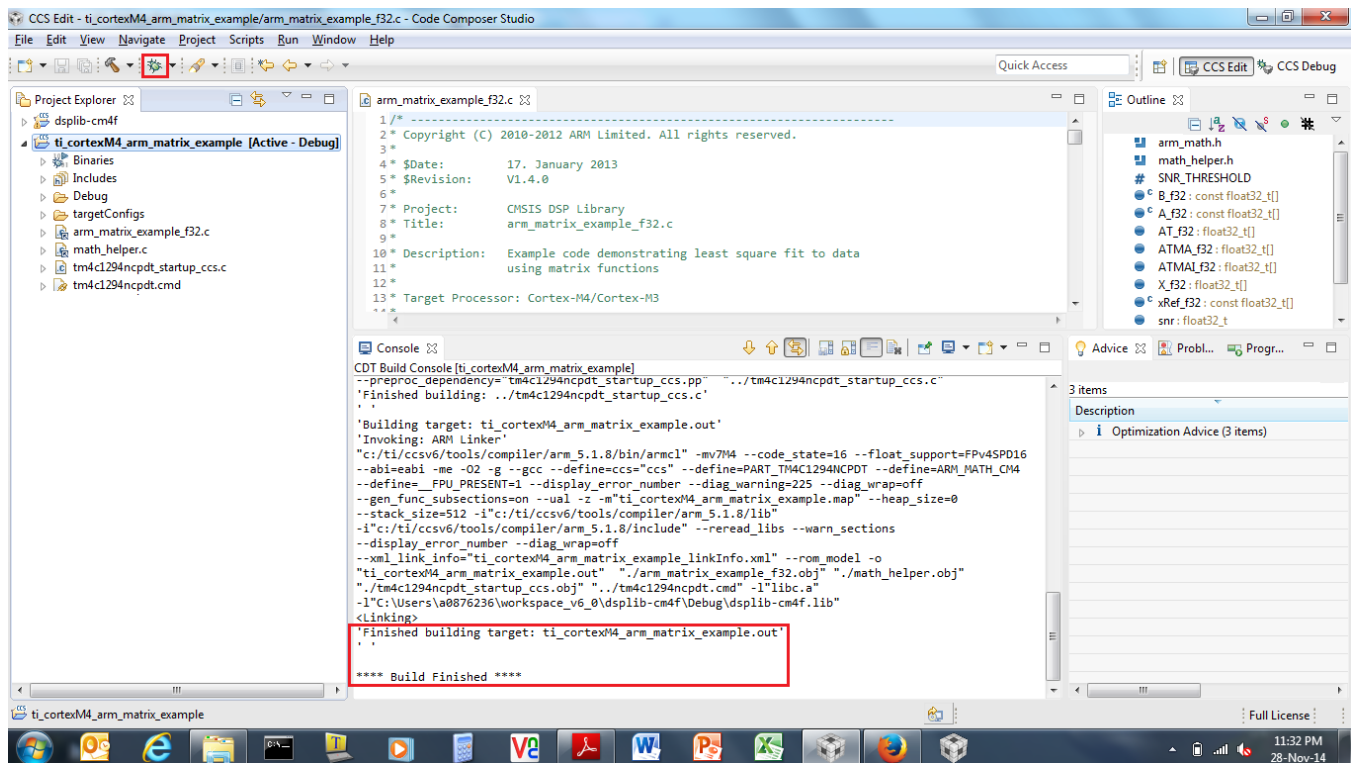

Figure 25. The Debug Context Being Displayed After the arm_matrix_example Project has Been Set Up for Debugging
1. Press the *Debug* icon in the Code Composer Studio toolbar (see Figure 25).